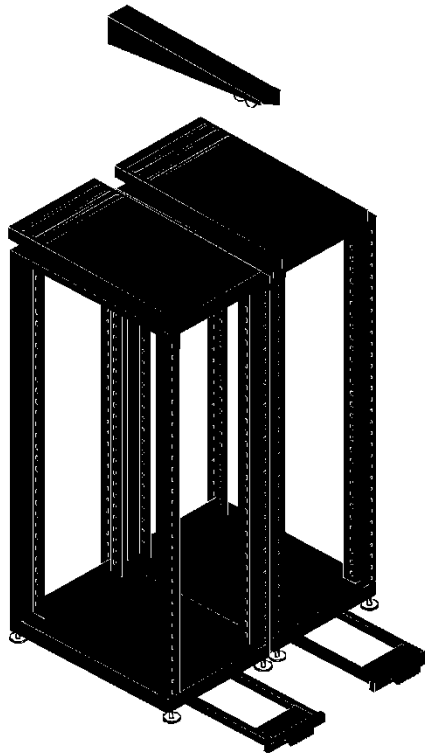

Figure 4. Attaching the Tie Top Panel
5. Position the two cabinets next to each other, about three inches apart. (See Figure 4)
6. Put the L-shaped tie-top panel in place between the two cabinets. The tie-top has tabs that slip into slots on top of each cabinet. (See Figure 4)